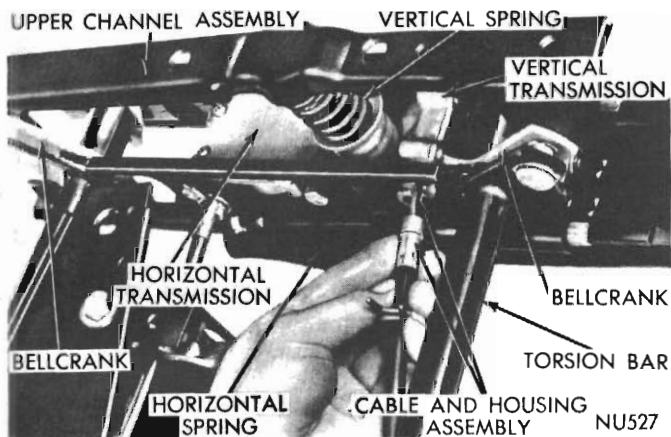

Fig. 55 - Removing or installing cable and housing
- (1) After motor has been disconnected. Remove corbin clamp from cable housing, then slide cable and housing out of connector (Fig. 55).